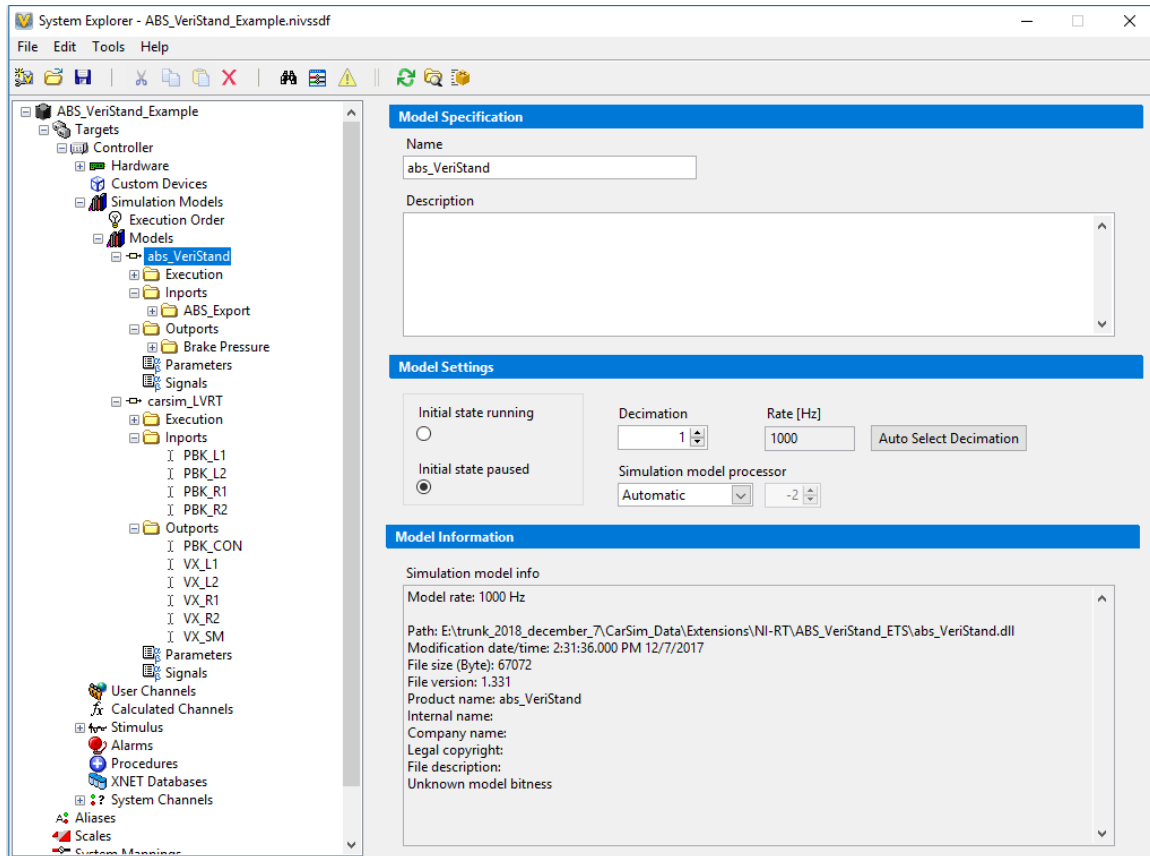

Figure 27. VeriStand after adding simulation models.
- Under **Path**, click the browser button and point to `carsim_LVRT.dll`, the file that you just copied to your project folder. Select **Initial State Paused**. Repeat the same process to add another Simulation model, `abs_VeriStand.dll`. The model specification and the settings should look something like Figure 27.